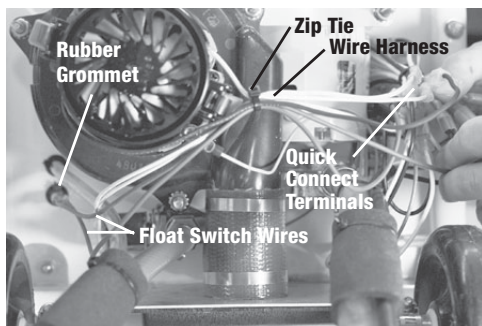

Figure 9
3. Locate the float switch's two electric wires and disconnect them at their quick-connect terminals (fig. 9).
4. Carefully cut zip-ties from wire harness (fig. 9).